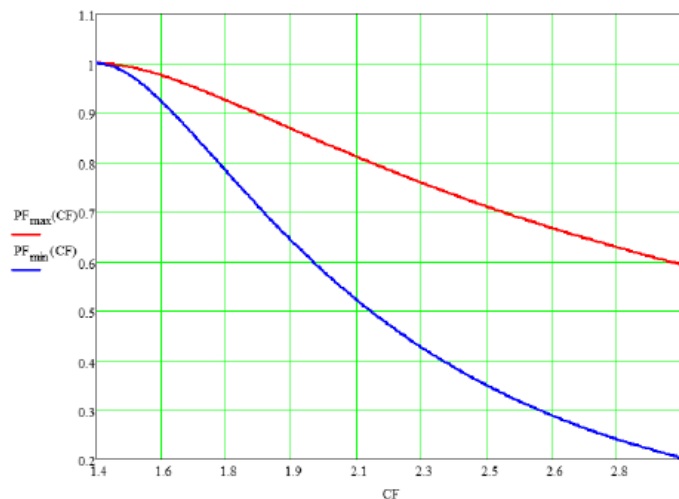

Figure 3-4 Relationship between PF and CF
According to the theory, Figure 3-4 shows the relationship between PF and CF.
2. When Both is selected in CC (see section 3.4.6) and CP mode (see section 3.4.7), the CF and PF values need to be entered at the same time and their priority has to be set again in Both mode. If the setting is over the range shown in *Figure 3-4*, the Regenerative AC Electronic Load will automatically modify the user-defined range to a valid range. A further illustration is shown in the following 2 examples.